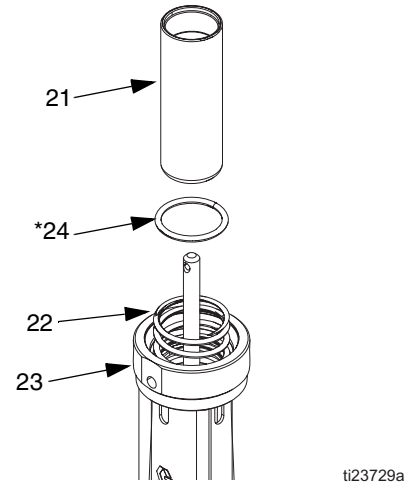

FIG. 15
- Slide air piston (21) out the top of the air motor base (23). Remove o-ring (24\*) from air motor base. Inspect all parts, including the spring (22) in the air motor base, for damage. See FIG. 15.